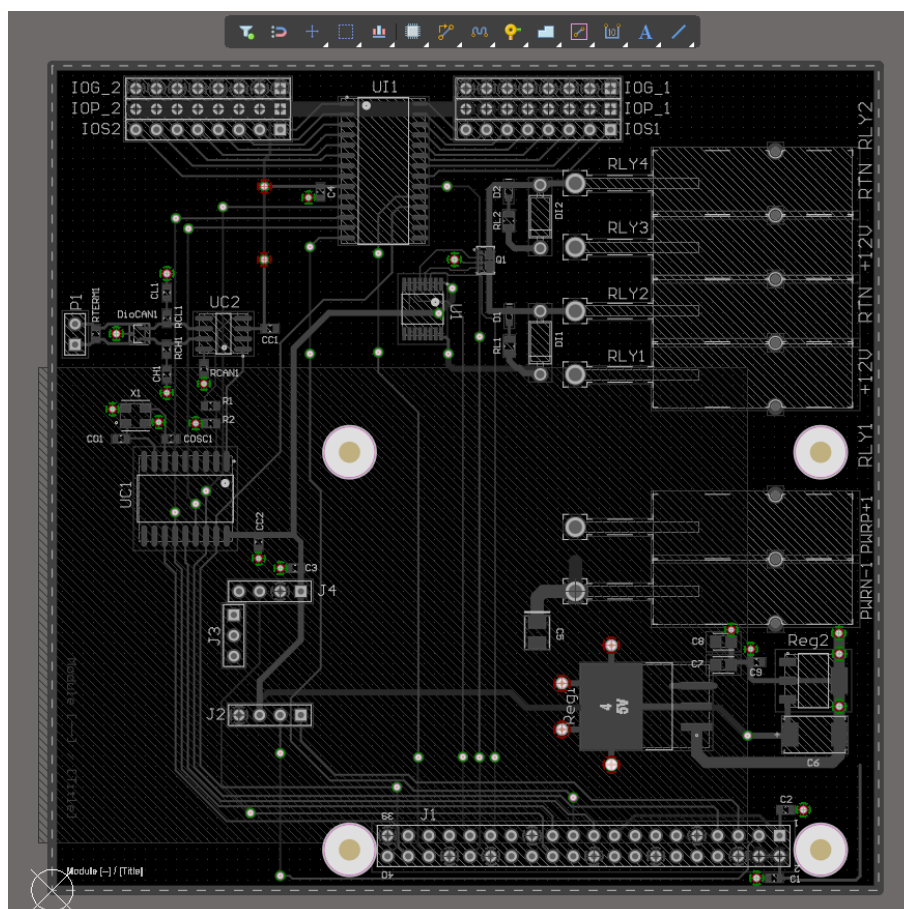

Figure 9. All Vias selected using the Find Similar Objects dialog
31. Click the **Apply** button to select all vias in the design as shown in Figure 9 below.